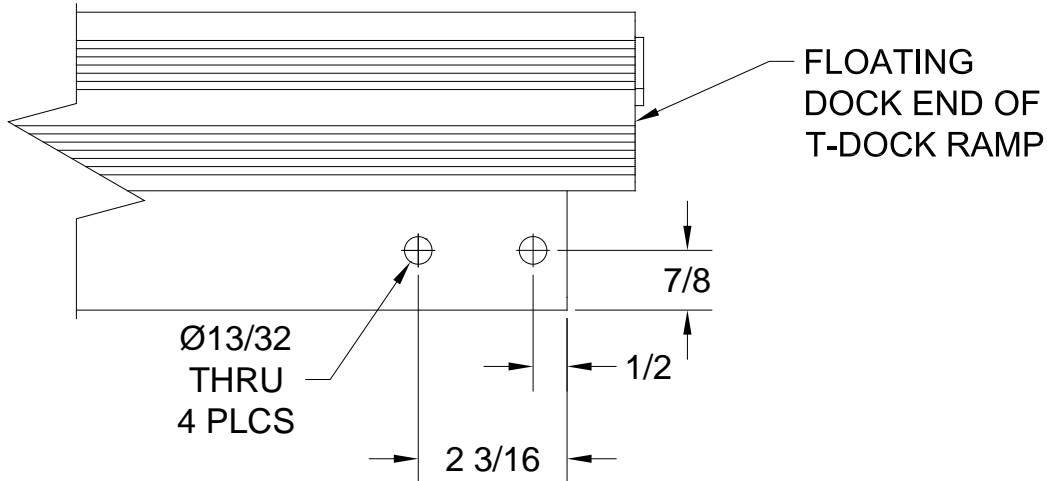

**Figure 1-4**
4. Attach hardware to Seawall Brackets (B/N 1) as shown in Figure 1-4. Attach T-Dock Ramp to brackets by lining the slot in the hinge plates (B/N 2) with the hex bolt (B/N B) in seawall brackets.